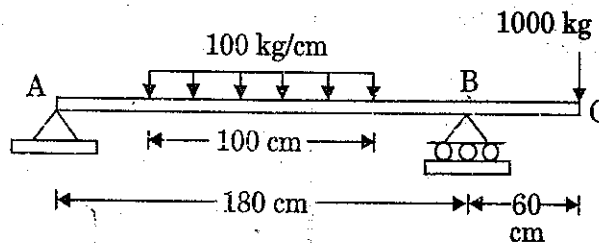

Figure 1
4. (a) Draw the shear force and bending moment diagram and label the values of the largest positive and negative shearing forces and bending moments for the beams with overhang as shown in Figure 1. 30